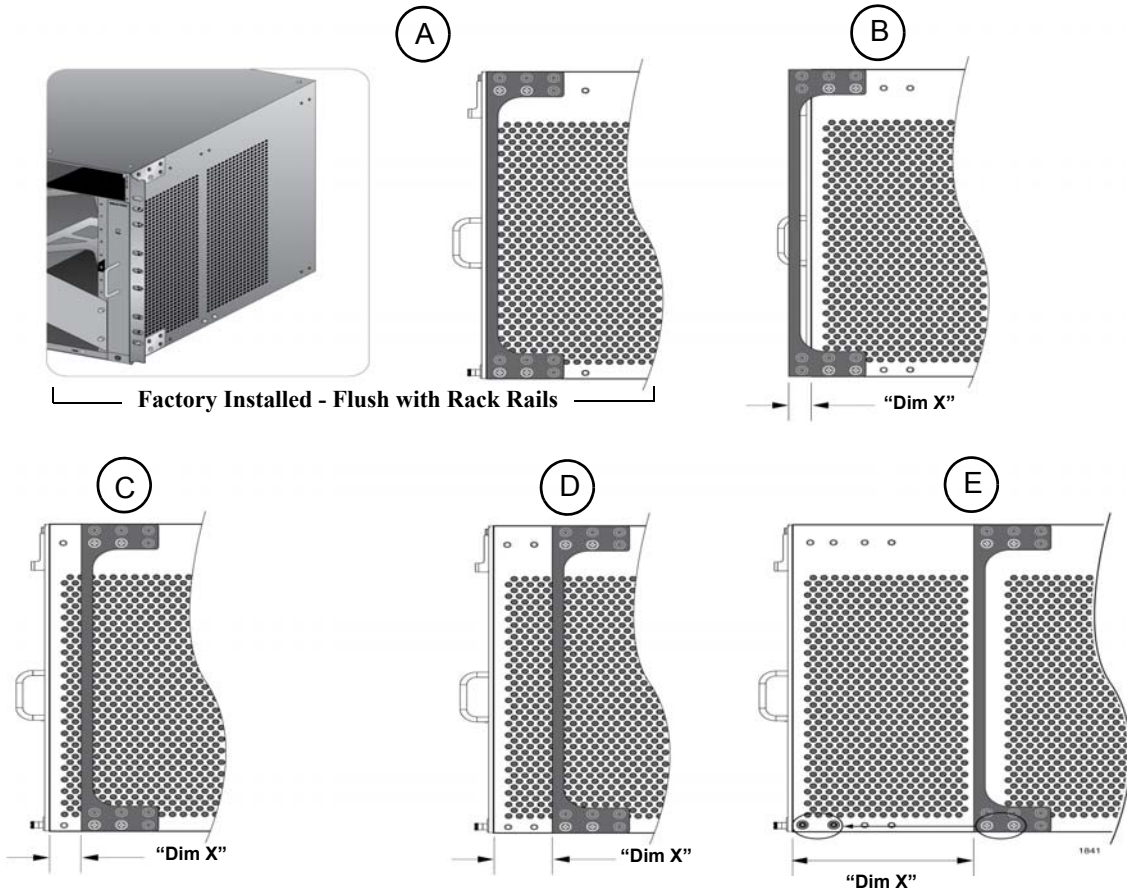
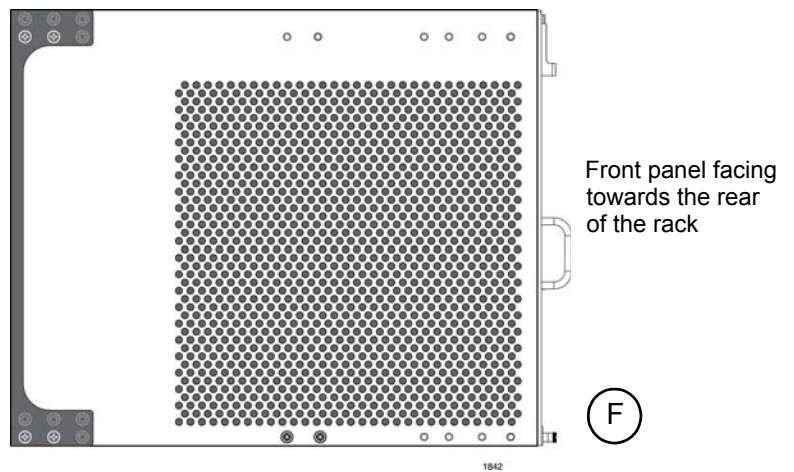

Figure 38. Rack Mounting Bracket Locations
Figure 39. Rack Bracket Locations for Reverse Position of Chassis
The different bracket positions are listed in Table 24 and illustrated in Figure 38 on page 85 and Figure 39 on page 85. Please review the following information before moving the brackets:
- ❑ To install the rack mount brackets in position “E,” you have to remove the two chassis screws from the bottom-middle section of the chassis and re-install them in front where the rack mount bracket screws were originally, as shown in Figure 38.
- ❑ The dimension (X) between the front panel and the rack rails is given for each rack mounting bracket position in Table 24.